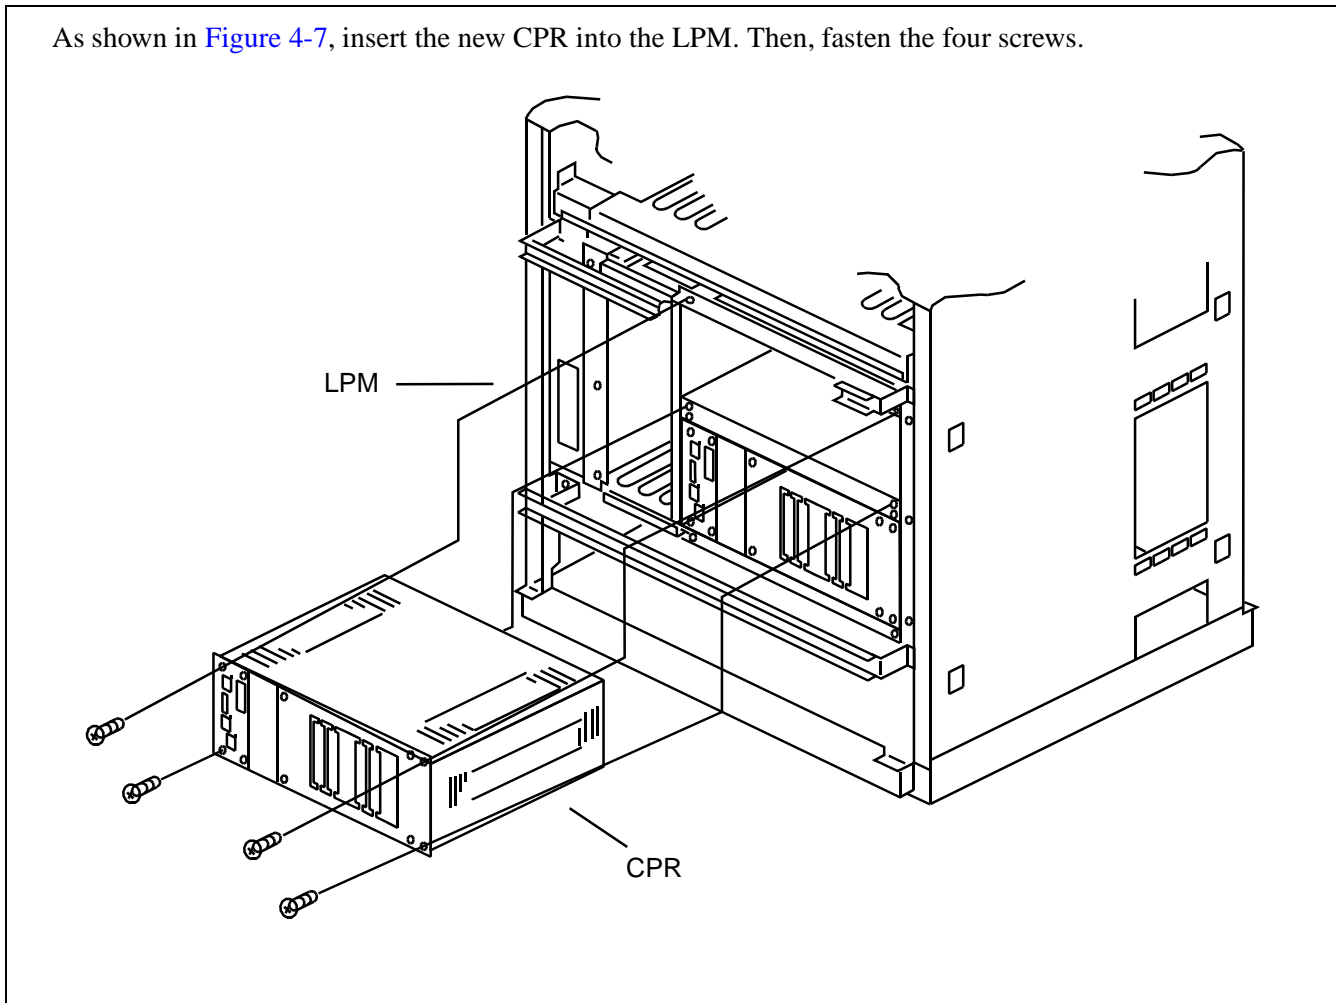

Figure 4-7 Accommodation of New CPR into LPM
- STEP 4 After turning “ON” the MBR key on the DSP of the new CPR, insert the new CPR into the LPM. Then, fasten the retained four screws. (Refer to Figure 4-7)
As shown in Figure 4-7, insert the new CPR into the LPM. Then, fasten the four screws.